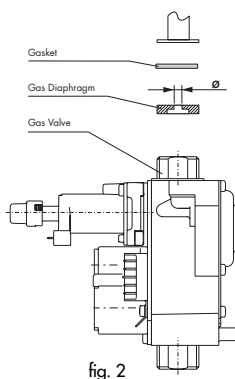

fig. 2
- Insert the gas diaphragm (fig. 2)